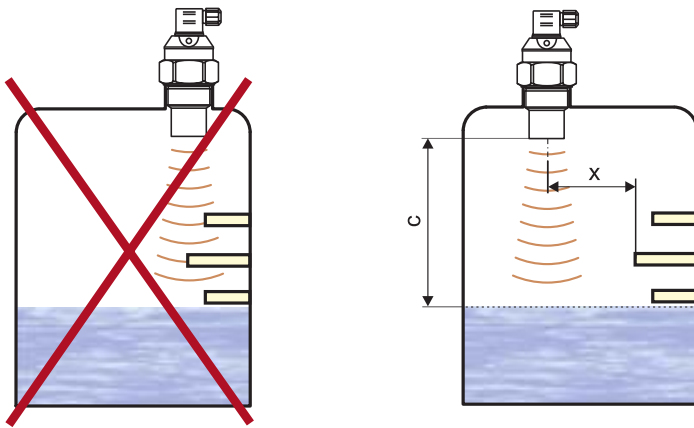

Fig. 6: Minimum distance of the level meter to nearby objects in the tank
- Emitted acoustic signal must not be affected by **near objects** (ladders, mixers, propellers, etc.), stream of filling, air flow, etc. (Fig. 6).